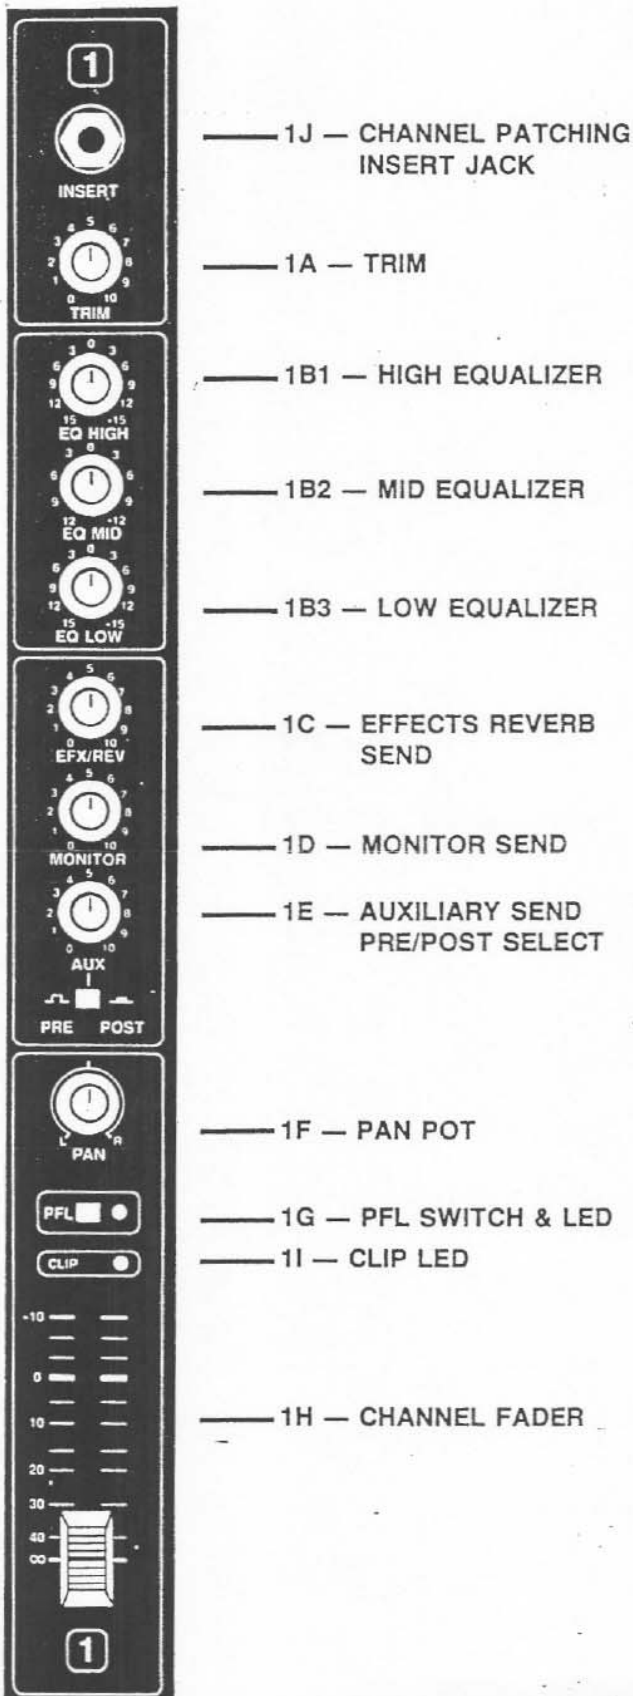

FIGURE 1 — Input Channel Functions
1.0 INPUT CHANNEL CONTROLS (Figure 1)